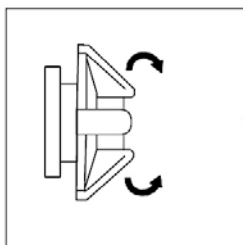

Fig. 1
1. Adjust the headband diameter with the twist knob on the headband. Twist clockwise to tighten and counterclockwise to loosen (Fig. 1).